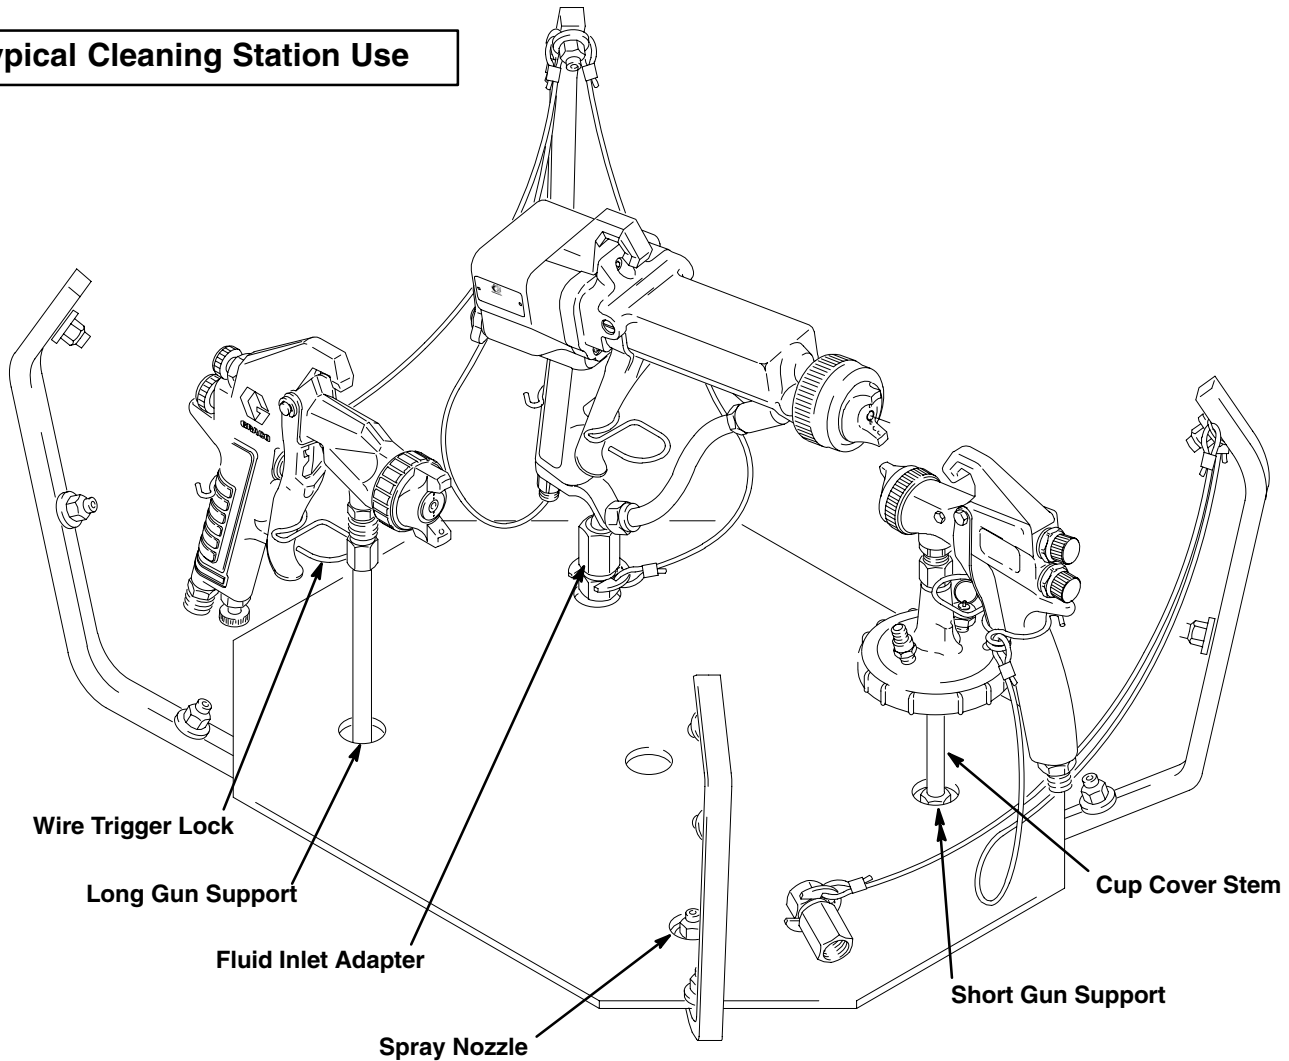

Fig. 3
3. To lock the gun trigger in the open position, install the wire trigger lock around the gun handle and trigger as shown in Fig. 3.
Placing Guns in the Gun Washer (See Fig. 3, page 14)
Set the cup cover stem over the short gun support as shown in Fig. 3.
Set the gun fluid inlet over the long gun support as shown in Fig. 3.
3. Screw the fluid inlet adapter onto the PRO-gun fluid inlet as shown in Fig. 3.
Set the pressure cup over the spray nozzle. Refer to Fig. 3.